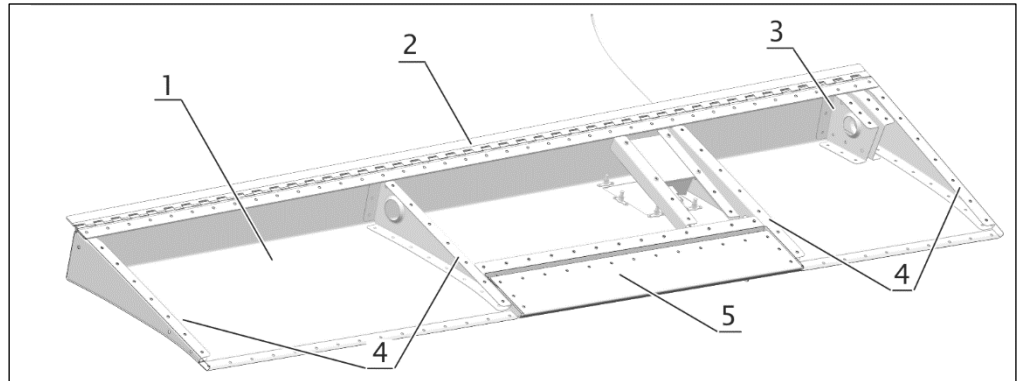

Figure 3 Aileron (left)
The ailerons (Figure 3 and 4) are of aluminum structure consisting of the skin (1) and ribs (4) riveted together. Ailerons are suspended on the rear spar by means of piano hinges (2). A trim tab (5) is installed on the left aileron. Control lever (3) is installed on the root aileron rib.